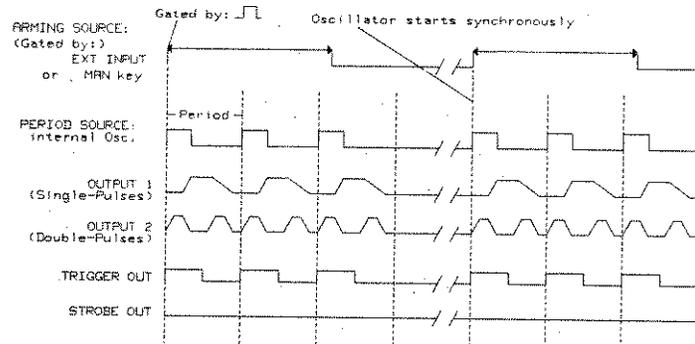

Figure 3-13.
Figure 3-13 does not show the intrinsic fixed delays between the **EXT INPUT** and the **TRIGGER/STROBE OUT** signals, and between the **TRIGGER OUT** and the main **OUTPUT 1/2** signals. Refer to Chapter 6 for the typical values of these delays.
- internal 0sc (Start of pulse synchronized to trigger, see Figure 3-13)